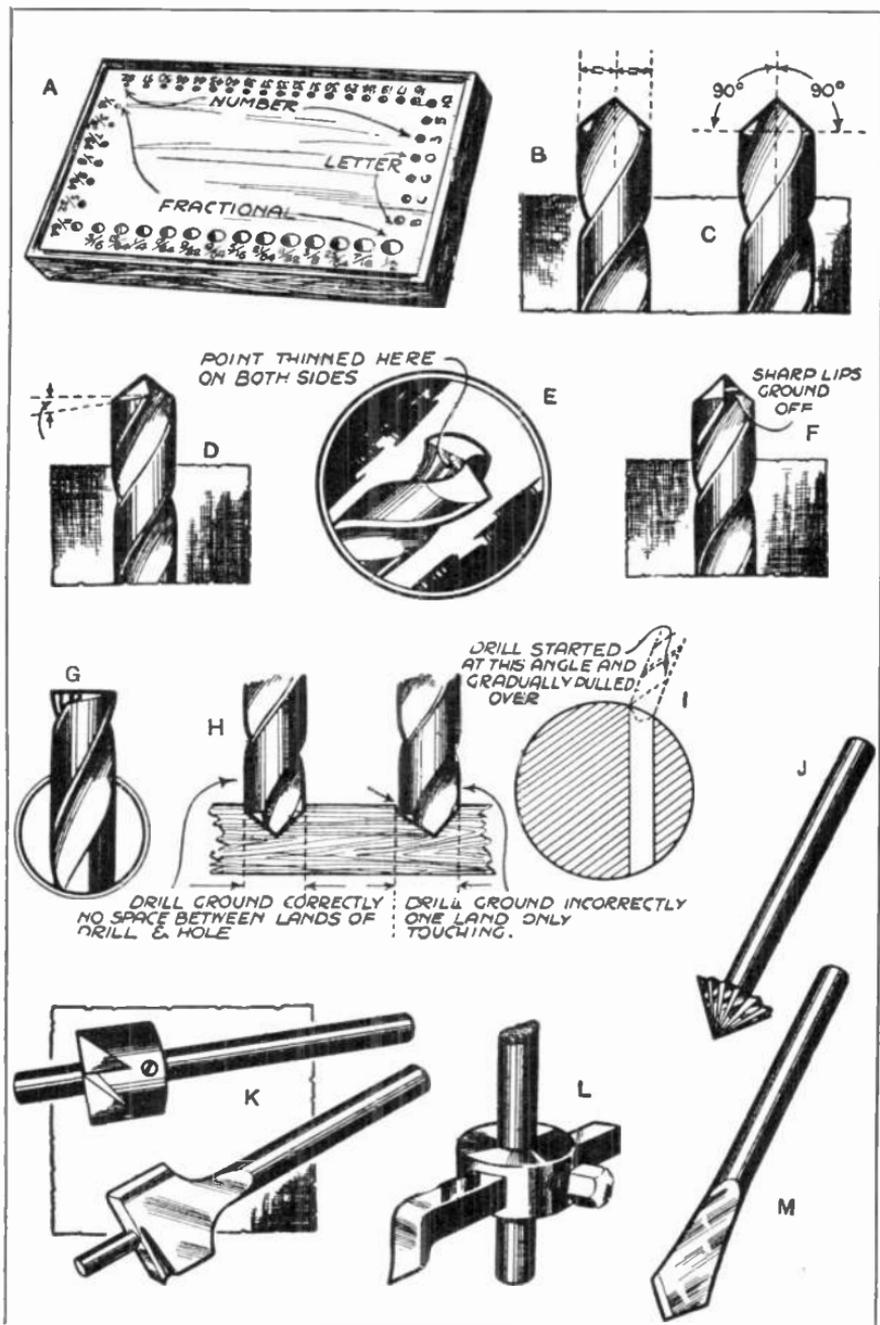

FIG. 176.—Various hints about Drills and Drilling.
These drills, and a $\frac{7}{16}$ -in. and $\frac{1}{2}$ -in. diameter and possibly a few extra fractional sizes below $\frac{1}{2}$ in., should complete the range required. To keep them together a drill stand might be made as shown in Fig. 176, A.
- (1) That the point is central.
- (2) That the angles are equal.
- (3) That the backing off is equal (see Fig. 176 B and C).
Where any appreciable thickness of metal has to be drilled it is a good practice to thin the point of the drill, that is, where the same is unduly thick. This will make the drill cut faster, and also less pressure will be required on the drill. Fig. 176 D and E shows how to do this.
It is very noticeable, when drilling brass, aluminium, or ebonite, how the drill is inclined to "bite" into the material. A remedy for this is to grind the face at the cutting edges slightly to reduce the cutting rake (Fig. 176 F).
To produce flat-bottomed holes, such as are required to accommodate the heads of cheese-headed screws, the hole or holes are first drilled to take the shanks of the screws and opened out with another drill to take the head. This drill is then ground off flat and backed off, as seen in Fig. 176 G, and the drilling continued with it to the correct depth.
and the lips have started cutting, both lands (the narrow spiral portions against each flute) should be in contact with the edge of the hole (Fig. 176 H); if as shown in Fig. 176 H (right), it indicates that either the point is out of centre or that the angles are unequal.
Holes requiring to be drilled at an angle with a square face or through the edge of a piece of round material as shown in Fig. 176 I should be started by commencing to drill square with the work until a hole about 1/16 in. deep (full diameter) has been drilled, and then gradually bring the drill over to the desired angle, keeping the drill cutting slightly whilst so doing. Holes that have started slightly out of position may be pulled over in this manner.
Rose cutters, such as that illustrated in Fig. 176 J, are used for countersinking; resharpening when necessary is done with a small oilstone.
Two types of counterbores for larger holes are shown in Fig. 176 K. These are used by first drilling a small hole for the pilot to work in,
Large holes in sheet metal or circles from ebonite for formers can be cut out with the fly cutter shown in Fig. 176 L. A centre hole is also necessary in this case to accommodate the pilot, and the cutter is adjustable to suit different diameters.
To deal with a hole of a special size, when the right-sized drill is not available, a flat drill may be made to overcome the difficulty. A piece of silver steel smaller in diameter than the hole required (if the hole is 1/4-in. diameter 3/16-in. dia. silver steel will be about right) is heated at the end in the gas to a dull red and flattened out with a hammer. After allowing it to cool slowly the steel is carefully filed up to the shape shown in Fig. 176 M, the width of the point being made equal to the diameter of the